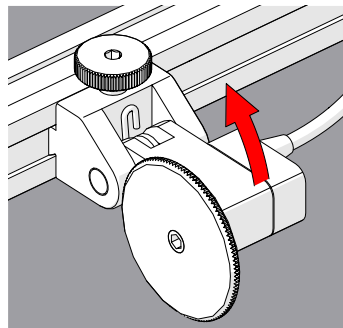

Fig. 59 - Place on scan surface
3. Spring tension maintains encoder contact with the scan surface (Fig. 59).